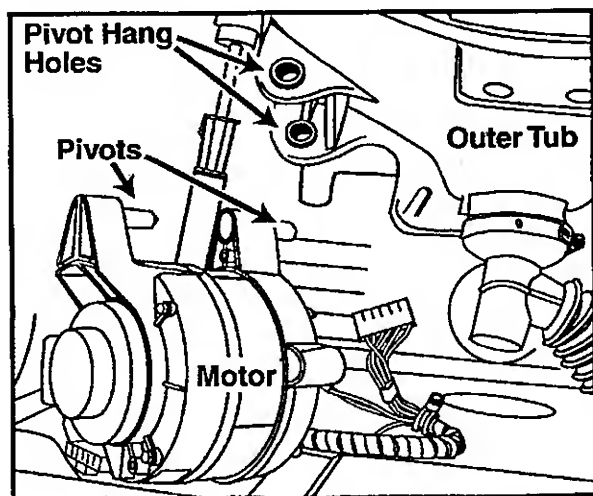

Figure 8-3
4. Lift the motor slightly to disengage the belt from the motor pulley. Grasp the motor and slide it carefully from the pivot hang holes in the outer tub. Place motor on the base frame (*Figure 8-3*).